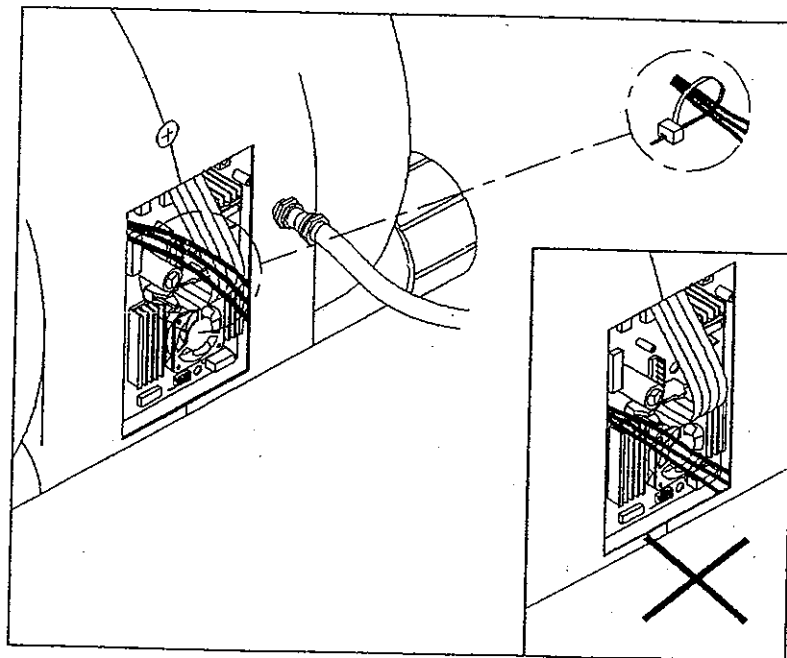

Fig. 15
6. Please go through a visual inspection to ensure that all wires are in their proper places and secure. Use the cable clip to tighten up and hold all the cables together (see Fig. 15).